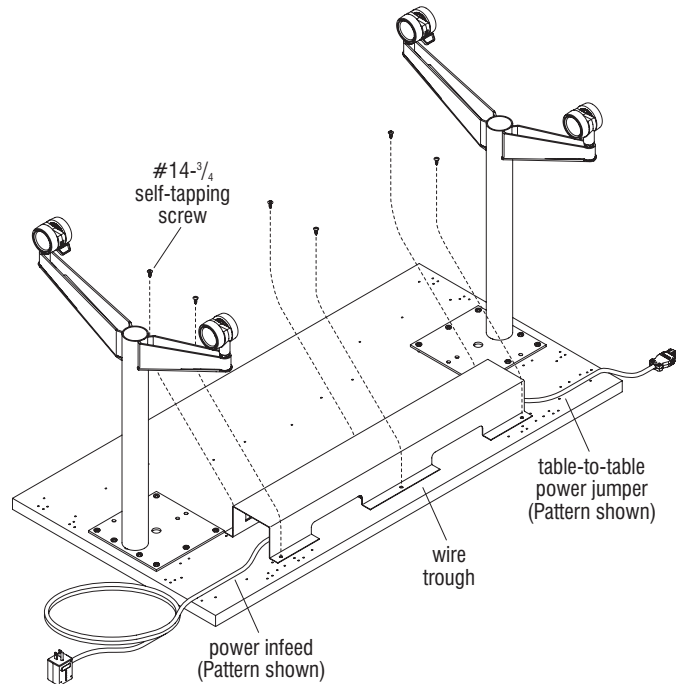

Figure 3
1. Holding contents inside the wire troughs, carefully turn them over 180-degrees, (upside-down) onto the tabletops, and over the power infeed, the connectors and cables in the trough so the trough lays flat. Align the wire trough mounting holes with the pre-drilled holes in the underside of the tabletop, and secure wire trough to tabletop using six #14 x 3/4" self-tapping screws. Do not over-tighten (Figures 3 & 4).